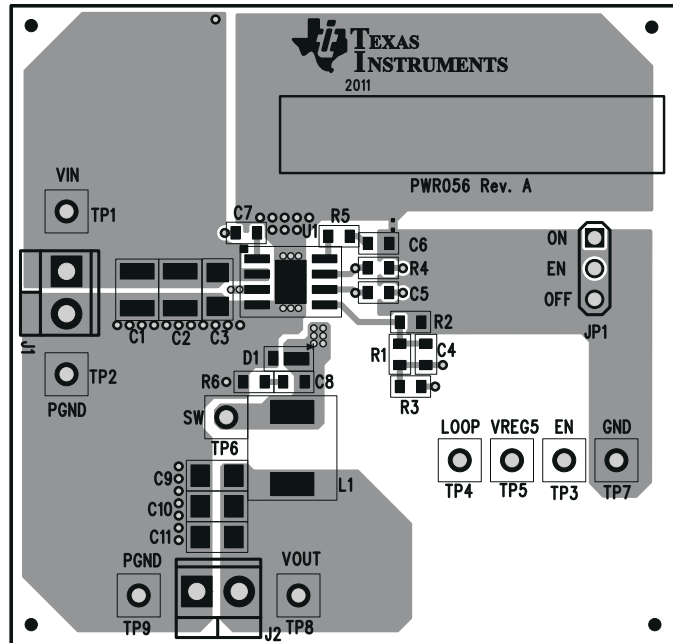

Figure 5-1. Top Assembly
The board layout for the TPS54239EVM-056 is shown in Figure 5-1 through Figure 5-5. The top layer contains the main power traces for VIN, VO, and ground. Also on the top layer are connections for the pins of the TPS54239 and a large area filled with ground. Many of the signal traces also are located on the top side. The input decoupling capacitors are located as close to the IC as possible. The input and output connectors, test points, and all of the components are located on the top side. An analog ground (GND) area is provided on the top side. Analog ground (GND) and power ground (PGND) are connected at a single point on the top layer near C6. The two internal layers are completely dedicated to power ground planes. The bottom layer is primarily power ground. A copper pour area on the bottom layer is used to connect the switching node (SW) to the output inductor and the boost capacitor. Traces also connect enable control jumper, EN, VREG5, and LOOP test points, and the feedback trace from VOUT to the voltage setpoint divider network.